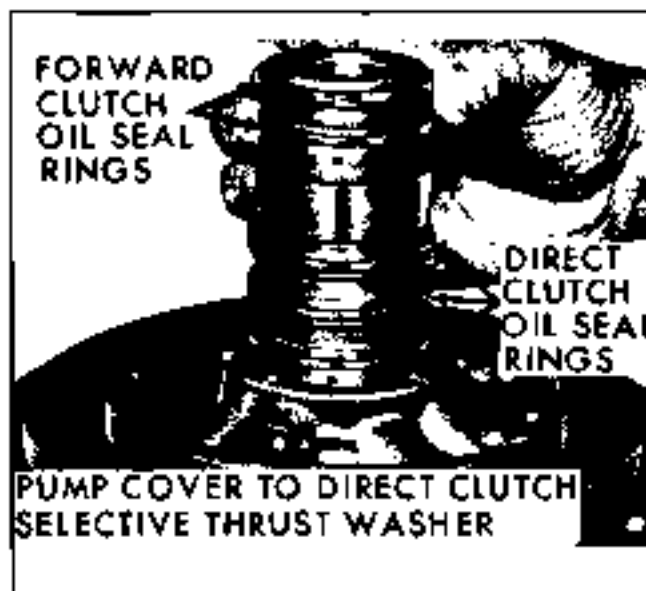

Fig. 7G-48 Removing Oil Seal Rings and Selective Thrust Washer
3. Place pump assembly, sinter shaft down, through hole in bench and remove five (5) pump cover-to-body attaching bolts (Fig. 7G-46).